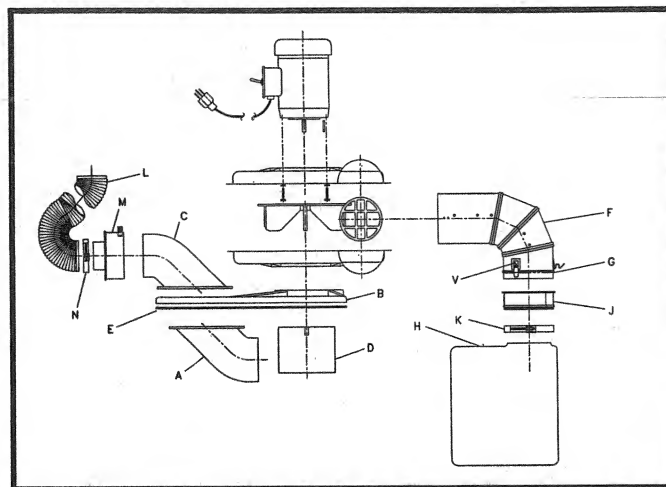

Fig. 2
3. The inlet elbow (A) Fig. 2, is to be attached to the bottom of the lid (B). Remove the nuts and washers from the two studs extending out from the bottom of elbow (C). Position inlet elbow (A), as shown, on the two studs and fasten in place using the two washers and nuts.
4. Assemble the sheet metal cylinder (D) Fig. 2, to the bottom of the lid (B) using the three 1/4-20 screws which are installed into nut inserts on bottom of lid.
5. Remove the paper protection from the adhesive side of the sealing gasket (E) Fig. 2, and install the gasket (E) to the underside of the lid next to the rim. The unit will be more effective if there are no air leaks between the lid and the drum.
6. After placing the unit right side up on the drum, assemble discharge elbow (F) Fig. 2, to the discharge end of the blower. Slip the 6-inch diameter o-ring (G) against the retaining ring on the open end of discharge elbow (F).
7. Clamp the open end of dust bag (H) Fig. 2, to elbow sleeve (J), using clamp (K) supplied. **NOTE:** Keep the edge of dust bag fabric 1/4-inch below flange of sleeve (J) to ensure correct locking action of the snap-latches, one of which is shown at (V). With the snap-latches (V) in the raised position, slide the elbow sleeve (J) with the bag attached, over the end of elbow (F) using a slight twisting motion. Snap the latches (V) downward to fasten the bag (H) to the elbow. **NOTE:** Make certain the bag fabric does not interfere with the locking action of the snap-latches.
8. On model 50-180 only, attach inlet hose reducer (M) Fig. 2, to inlet elbow (C) and clamp the suction hose (L) to the hose reducer using adjustable clamp (N) supplied.